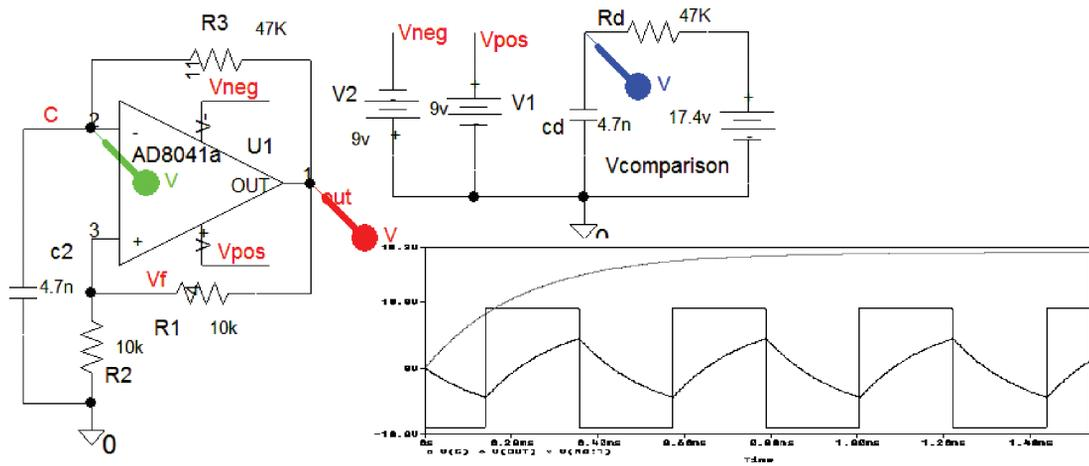

FIGURE 8.37: Astable oscillator
- (5) Investigate the astable oscillator using a ua741 IC in Fig. 8.37. The circuit to the right is for comparing the charging capacitors in each circuit.